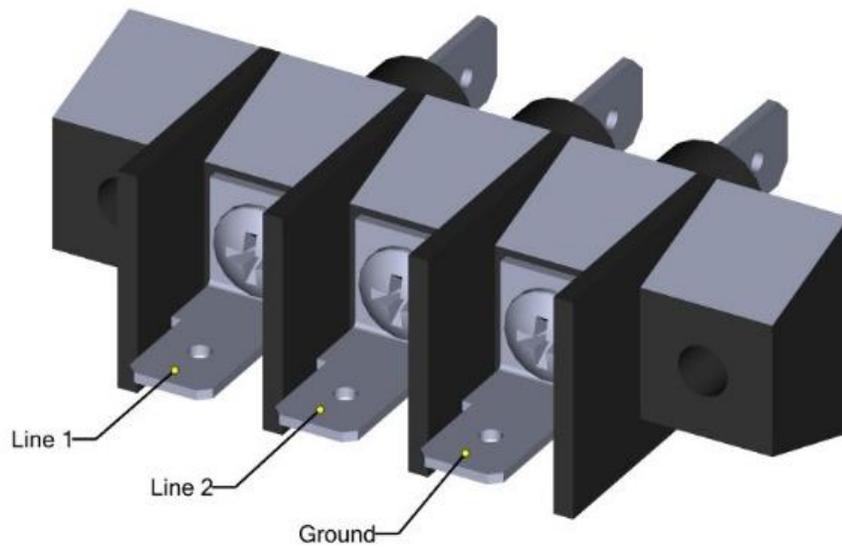

Figure 5: Power Terminal Block
6. Connect from left to right, Line 1, Line 2 and Ground. (See *Figure 5: Power Terminal Block pg:9*)
7. Once power is securely connected, install terminal box cover, using the (2) screws.